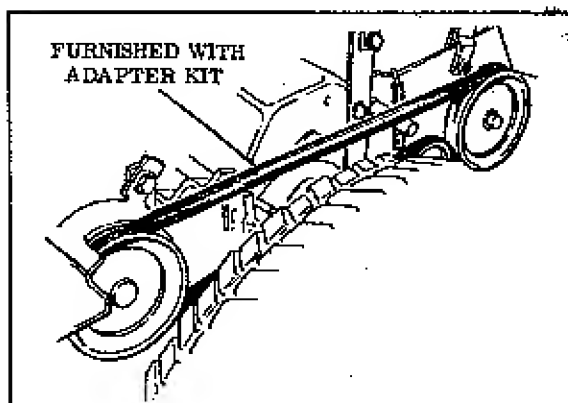

FIGURE 16
6. Place the pulley (#164202) on the shaft of the bevel gear housing. The new pulley will be secured outboard of the P. T. O. pulley with the key and setscrew provided. (Figure 16).
7. Place "V" belt (furnished with adapter kits) around the previously installed pulley. Run other end around the drive pulley and idler pulley which are mounted on the frame at blower. The spring on the idler pulley will automatically adjust belt tension. (Figure 16).